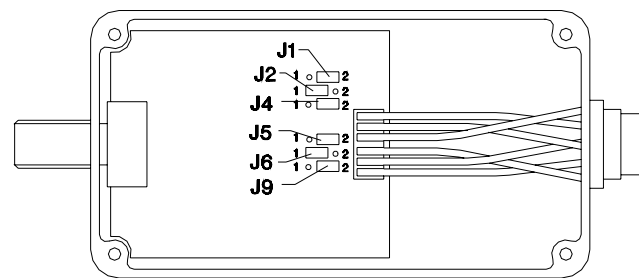

Figure 10: Receiver Output Configuration Jumpers
1. Remove the four (4) screws that secure the lid of the receiver enclosure and remove the lid.
2. Locate the six (6) jumpers that control the output configuration. They are shown in the following Figure 10.